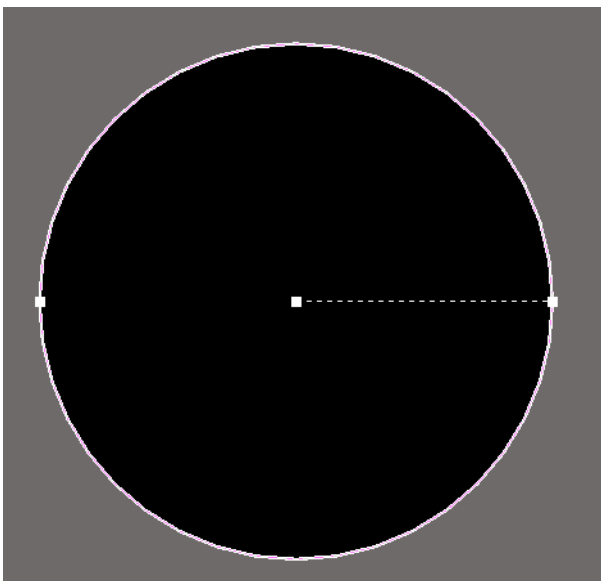

Figure 6. Defining the Board Shape from Selected Primitives
27. To create a circular board shape, go to the menu **Design » Board Shape » Define from Selected Objects**. The black area, which is the board outline, should now be limited to the circle as shown in Figure 6.